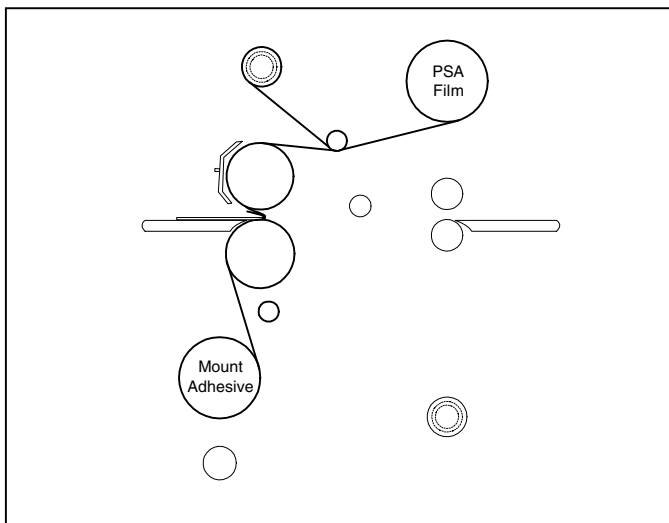

Fig. 27
9. Pivot the table back to it's feeding position while ensuring the threading card is on top of the feed table (Figure 27).